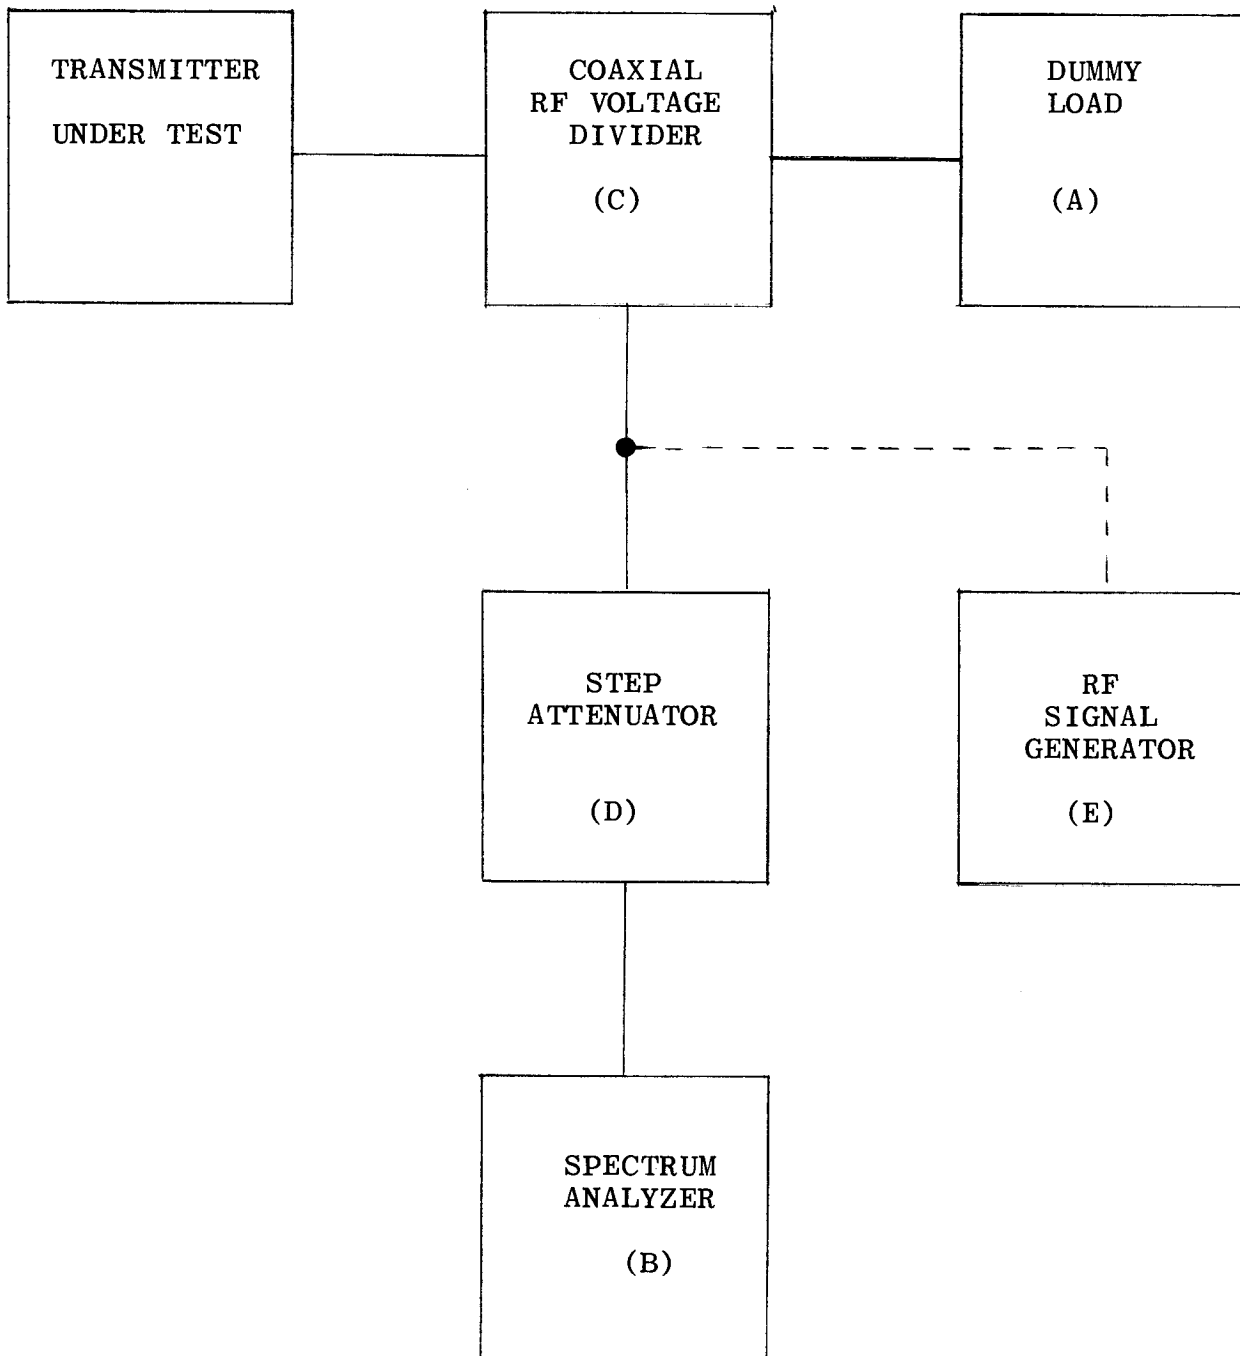

FIGURE 3.0
- a. Connect the equipment as shown in Figure 3.0.